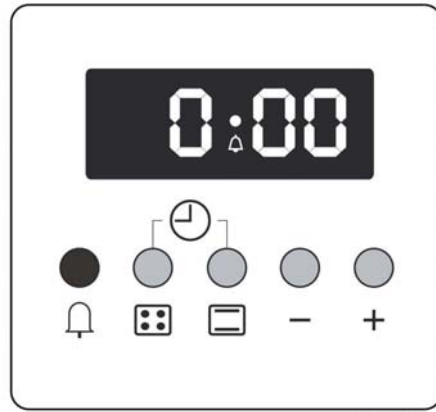

Fig. 13
1. Push button  till the corresponding symbol lights up on the display (see Fig. 13).